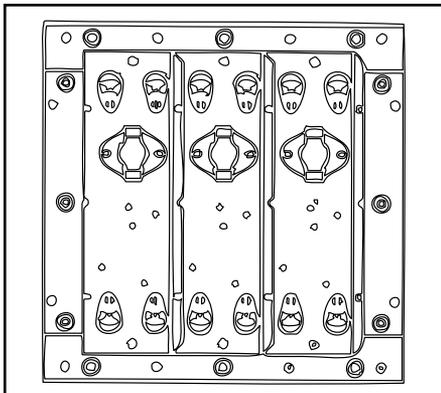

Figure 1B. Mounting Plates
P6SP/Q6SP/Q5SN Series – Remove the element opening cover. Four (4) mounting plates are required around the element kit to secure and seal the opening. Mount the longer plates to the top and bottom of the element assembly prior to inserting into the unit. Secure the element assembly in place using screws removed with the cover. Attach the remaining two side close off plates. **NOTE:** 240V -009Q and -018Q kits require the addition of a blank element plate included in the kit. See Figure 1B.